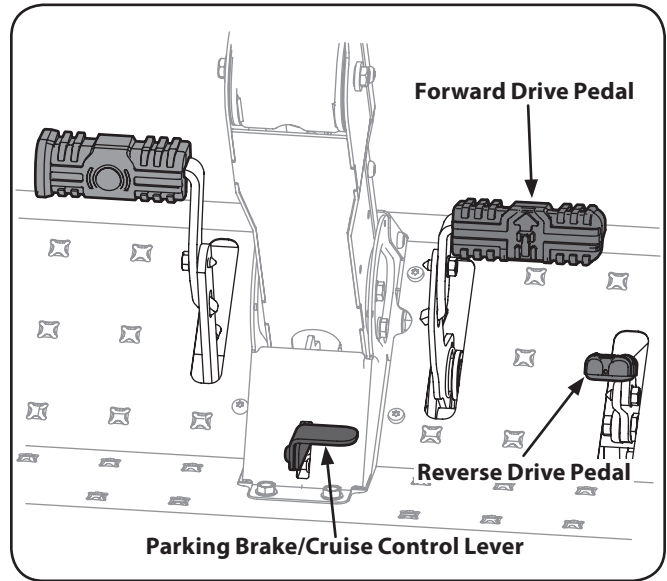

Figure 5-2
2. To travel FORWARD, slowly press the forward drive pedal  forward until the desired speed is achieved. See Figure 5-2.
8. To travel in reverse, check that the area behind is clear then slowly push down on the reverse drive pedal  with the ball of your foot (NOT your heel) until the desired speed is achieved. See Figure 5-2.